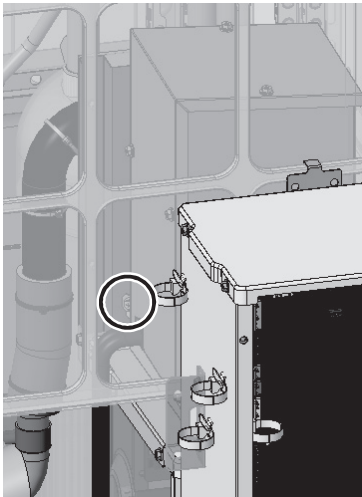

Figure 6
(8) Unscrew the screw on the far side of the transformer box. (1 screw as shown in Figure 6.)